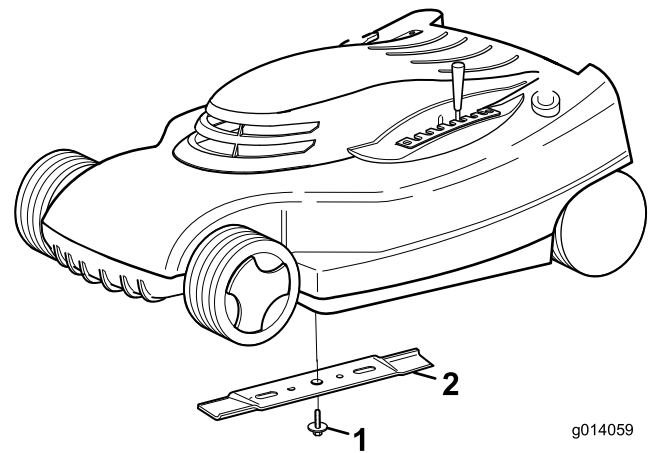

Figure 19
1. Grasp the end of the blade (Figure 19) with a rag or thickly padded glove.